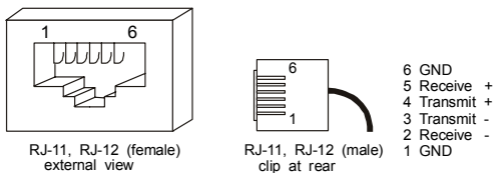
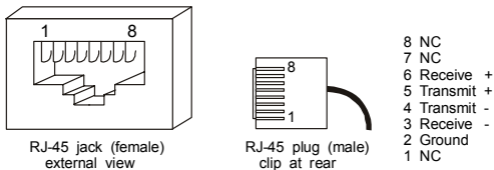

Figure 5. RJ-11 and RJ-12 Connector Pinout
Figure 6. RJ-45 Connector Pinout
- Plug the cable into the RJ-11 or RJ-45 jack. Make sure that the correct polarity is maintained throughout the cabling system (see *Figure 5* and *Figure 6* for the pinouts).